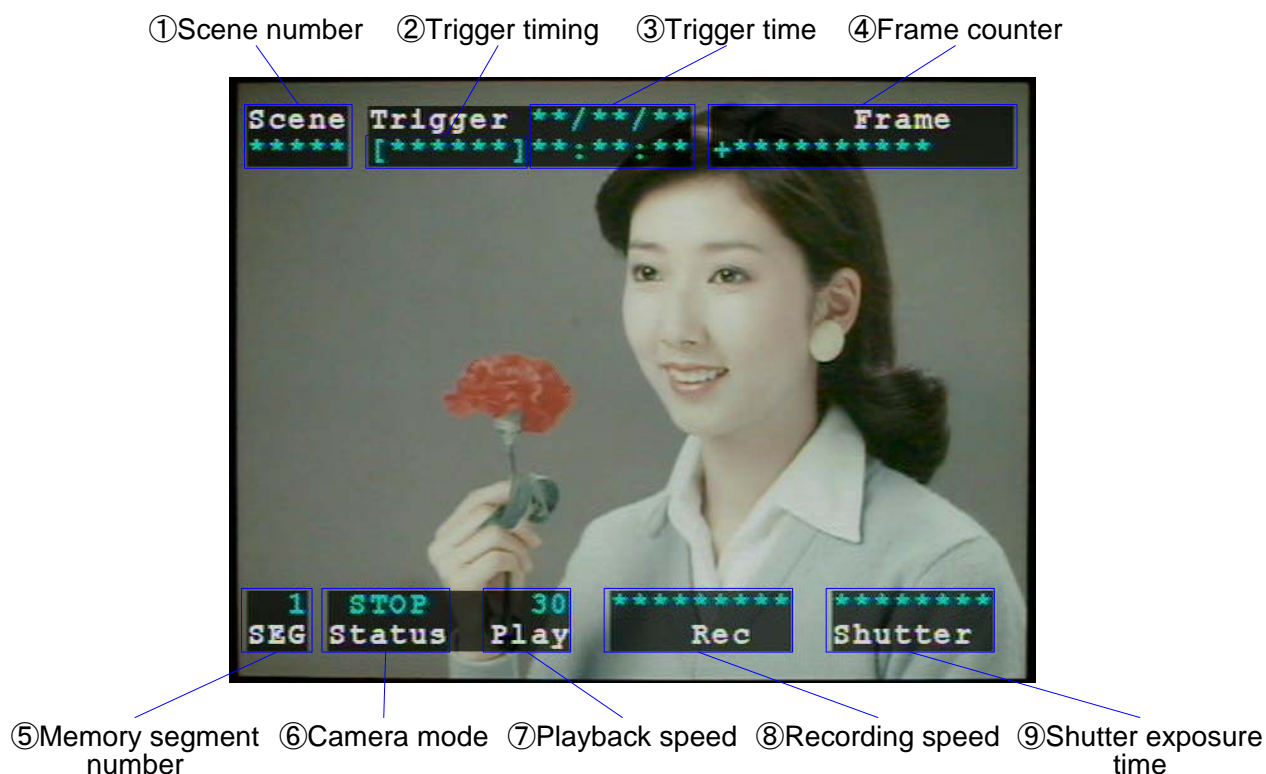

Figure 2-5 STOP mode screen
- 4) After the automatic diagnostics have been completed, the test image recorded during automatic diagnostics is displayed and the MEMRECAM GX-3 enters the STOP mode. Nine areas of information are superimposed at the top and bottom of the screen (Figure 2-5).